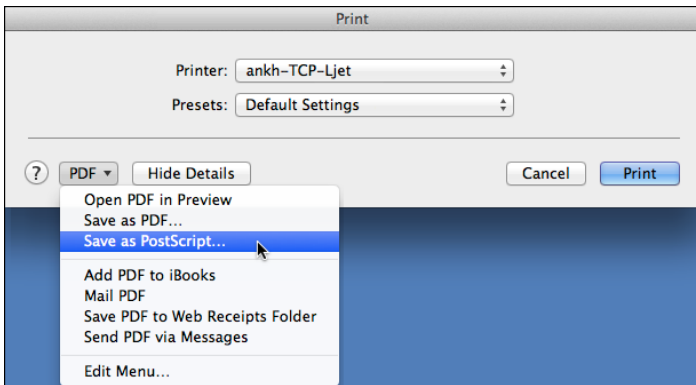

Fig. 14.2: Printing the Word document into a PostScript file
- Set up your printer driver as shown in Fig. 14.2 and print your document into a PostScript file.